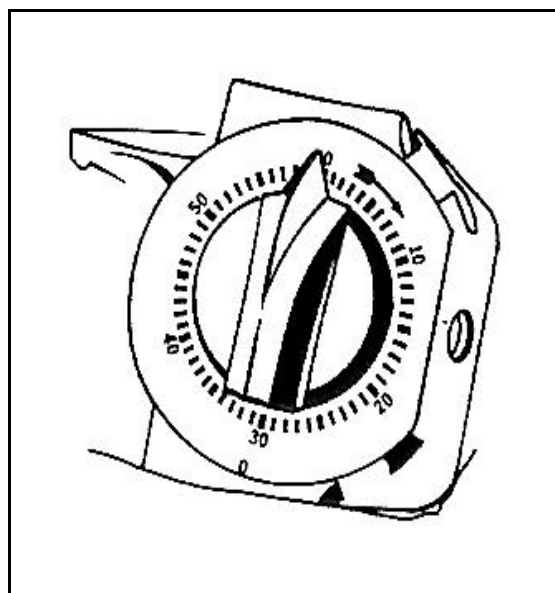

Figure 11-48. Putting on the OBA, Step 12
- **Step 12.** Set the timer (Figure 11-48, page 11-60) by turning the knob clockwise. On older units, the timer is set for 30 minutes. This allows the wearer 15 minutes to leave the contaminated area after the alarm sounds. On newer units, the timer may be set for 45 minutes or less. The control should be turned to the extreme clockwise position and then reset to the desired time interval. This ensures that the alarm will sound for a full 8 to 10 seconds.